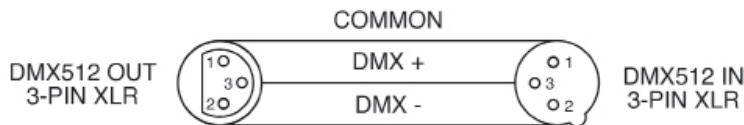

Figure 1
**Notice:** Be sure to follow figures 1 and 2 when making your own cables. Do not use the ground lug on the XLR connector. Do not connect the cable’s shield conductor to the ground lug or allow the shield conductor to come in contact with the XLR’s outer casing. Grounding the shield could cause a short circuit and erratic behavior.